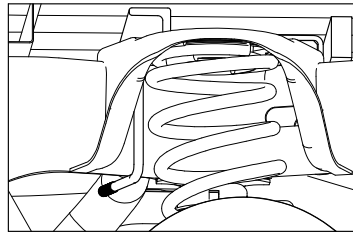
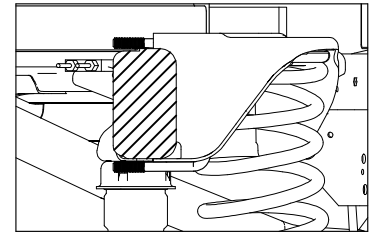

Figure D1: View of driver side suspension spring (Tire not shown)
Figure D2: Cutaway view of suspension spring area looking towards the rear of the truck
1. **Place the U-bolts.** Place one U-bolt in front of each coil spring around the pickup frame as shown in Figure D1. To ease installation of the side plates, start with the U-bolts pulled back from the frame so that the ends of U-bolts are flush with the wall of the tubular frame, see Figure D2.